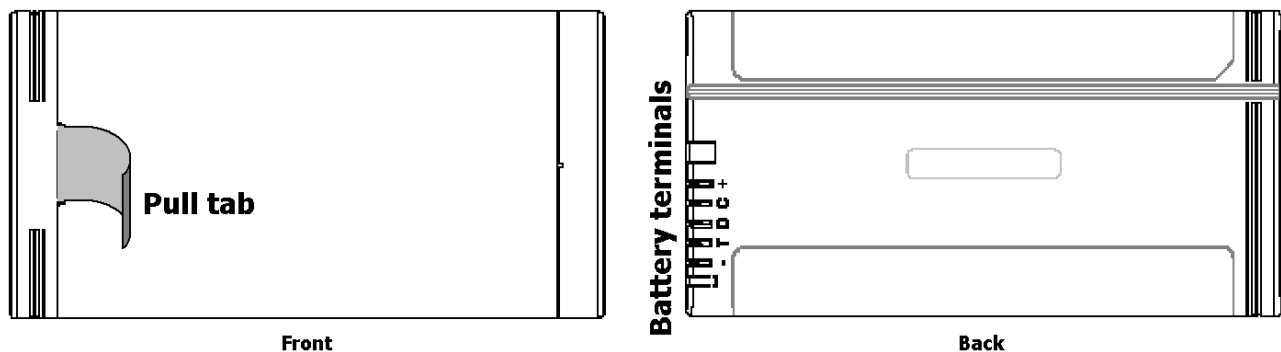

Fig. 14. Front and Back of Internal Battery.
1. Remove the eight (8) screws from the hatch with the provided 2.5 mm hex wrench and remove the hatch to expose the battery.
2. The end of the battery closest to the front of the IDM-200 has a pull tab. Gently pull it outward, as if opening a book cover or door, until the battery slips off the connector terminals located at the lower rear of the compartment. Figure 14 shows the pull tab on the front side of the battery and the connector terminals on the lower back edge.